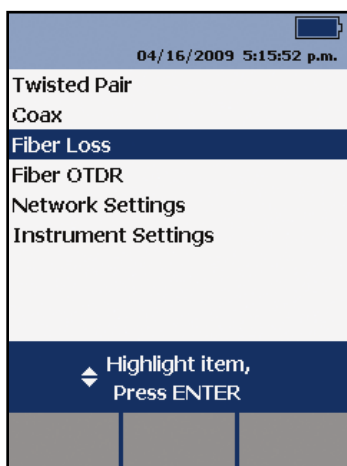
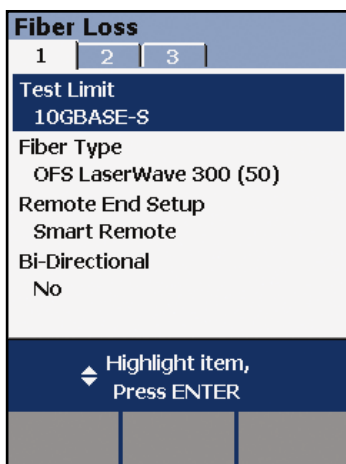

Figure 2
Figure 3
- b. Select Fiber Loss from the Setup screen as shown in **figure 2**. Under this setup screen, choose from a menu of standards to select the correct limits. Select the Test Limit option as shown in **figure 3**. Note that the selected fiber type limits the test limit choices. Popular fiber types are also included in the instrument menu.
As **figure 3** shows, the same setup screen allows you to select the “Remote End Setup”. When using the DTX Smart Remote equipped with the fiber test module, select “Smart Remote” as we have done in this example. In this mode, the tester automatically measures the length of the link-under-test.
Bidirectional testing – If you want to test each fiber in both directions, don’t forget to select that option in the setup screen (see **Figure 3**). When the tester prompts you to make the connection to test in the second direction, remember to switch the TRC at the link end. DO NOT remove the TRCs from the tester connections.